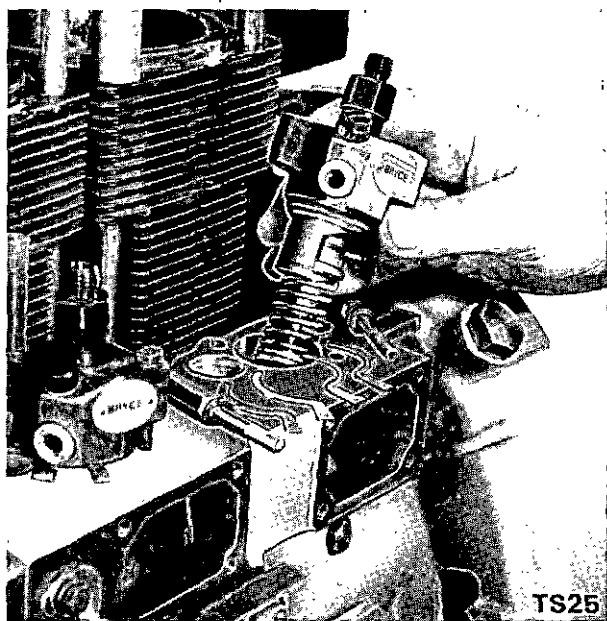

Fig. 24 Removing Fuel Pump.
- (f) Remove fuel pump holding down bolts. Lift out pumps taking care to retain adjusting shims below the pump body (Fig. 24).